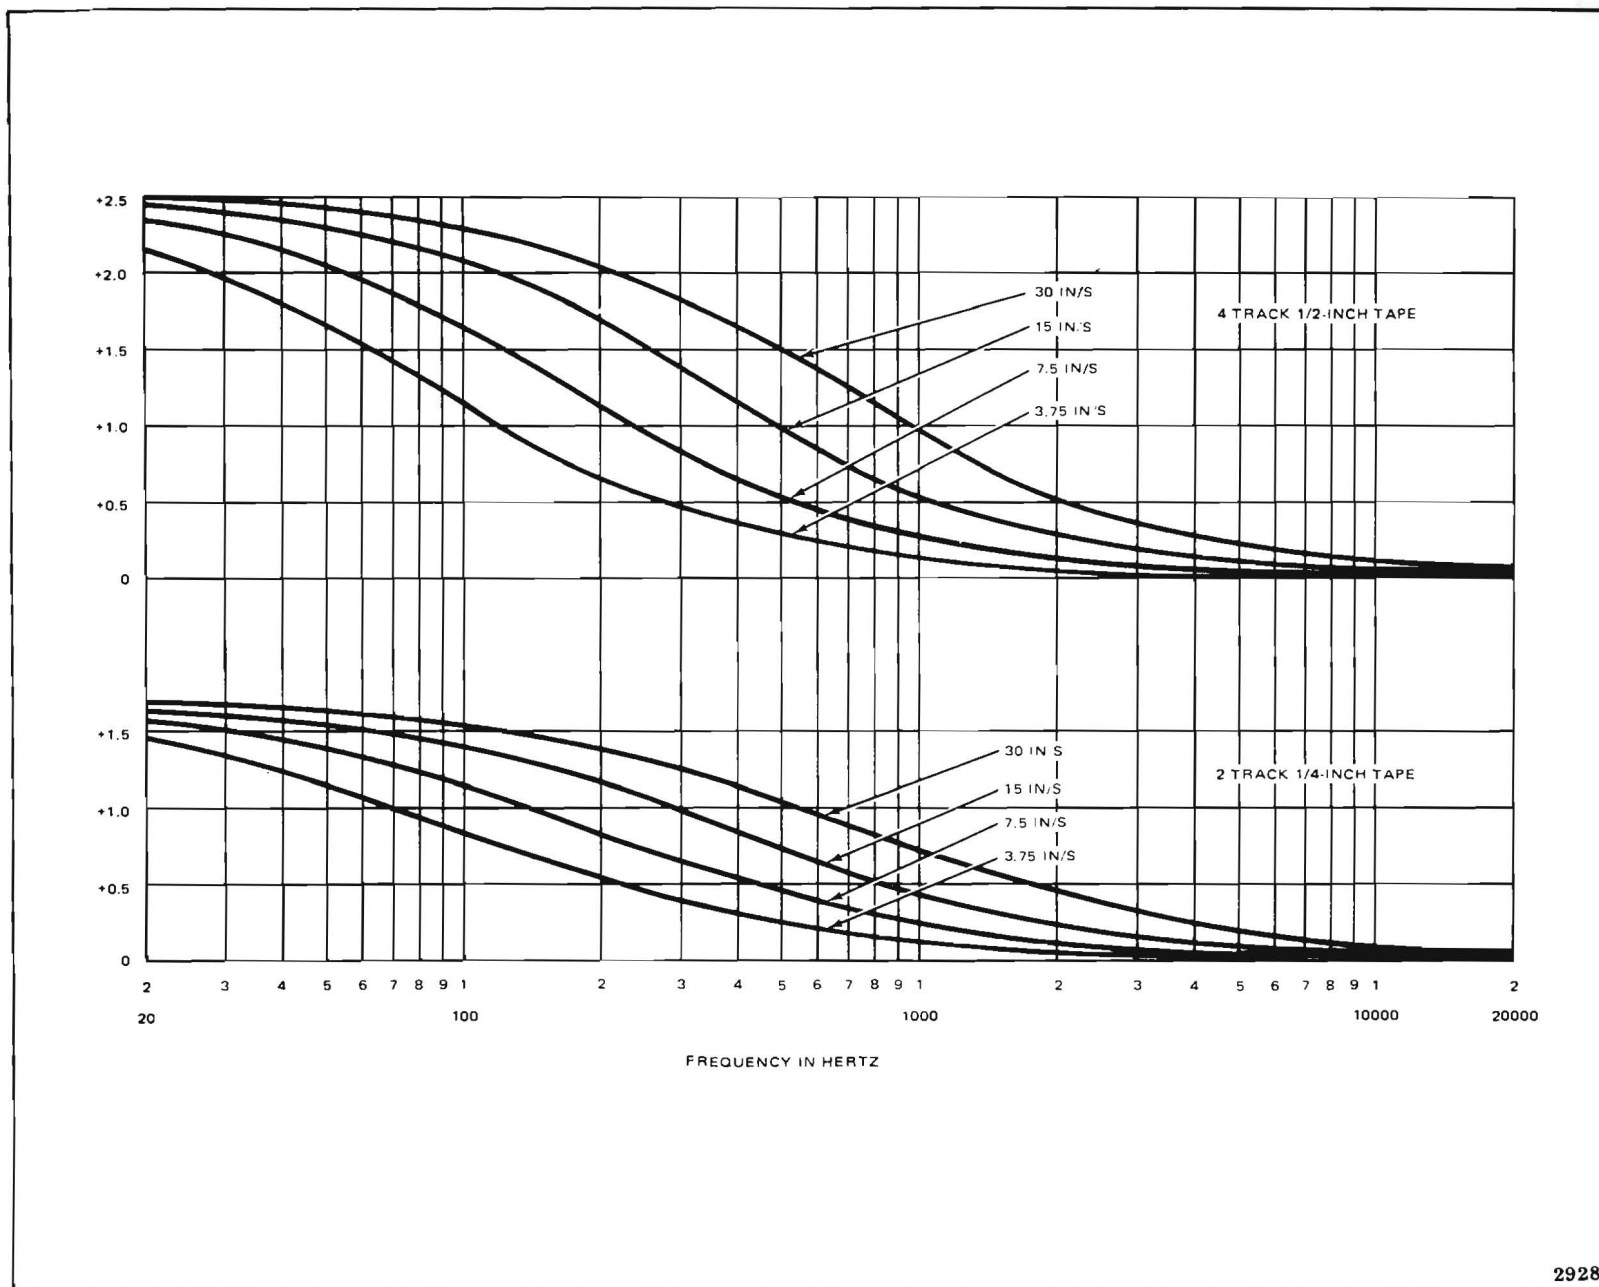

Figure 5-8. Relative Fringing Frequency Response Due to Fringing Effect
Therefore, if the equalization is correctly adjusted, the reproduce response when using a full-track alignment tape on either a 2-track, 1/4-inch tape system or a 4-track, 1/2-inch tape system should conform to the relative curves shown in Figure 5-8 within the tolerances given in Table 5-3. The curves given in Figure 5-8 display the *relative* fringing frequency response and *do not* include the fixed error due to the wider reproduce core width (as compared to the record head width).
The correction factors in Table 5-4 are the amounts by which the actual measured reproduce output from a full width alignment tape will exceed the reproduce output of the correct track width recorded to the same fluxivity. The table includes the fixed error due to the wider reproduce core width and the relative fringing error (shown in Figure 5-8) for frequencies of 500 Hz, 700 Hz, and 1.0 kHz. For example, when reproducing the 700-Hz, 185 nWb/m tone on an Ampex 15 in/s full-width alignment tape on a 2-track, 1/4-inch tape system, the output (as read on an ac voltmeter) will be +1.14 dB higher (Table 5-4) as compared to reproducing an alignment tape that has the same track format as the recorder/reproducer.
0.58 dB — relative fringing frequency response due to fringing error effect at 700 Hz and 15 in/s (Figure 5-8).
NOTE: To the above tolerances, add manufacturing tolerances of the alignment tape and relative fringing frequency response due to fringing effect (Figure 5-8).
*The amplitude correction factors shown in the table are the sum of the values shown in Figure 5-8 for the frequencies shown in the table, and the fixed errors due to wider reproduce core width as follows: 2 track — 0.56 dB due to 80-mil reproduce core on 75-mil track 4 track — 0.6 dB due to 75-mil reproduce core on 70-mil track
same level obtained in step 9 (or to required relative level as indicated in Figure 5-8, if applicable).
13. Reproduce the frequency response test tones on the alignment tape. Reproduce response should conform to tolerances shown in Table 5-3. If applicable, refer to relative fringing error curves shown in Figure 5-8.